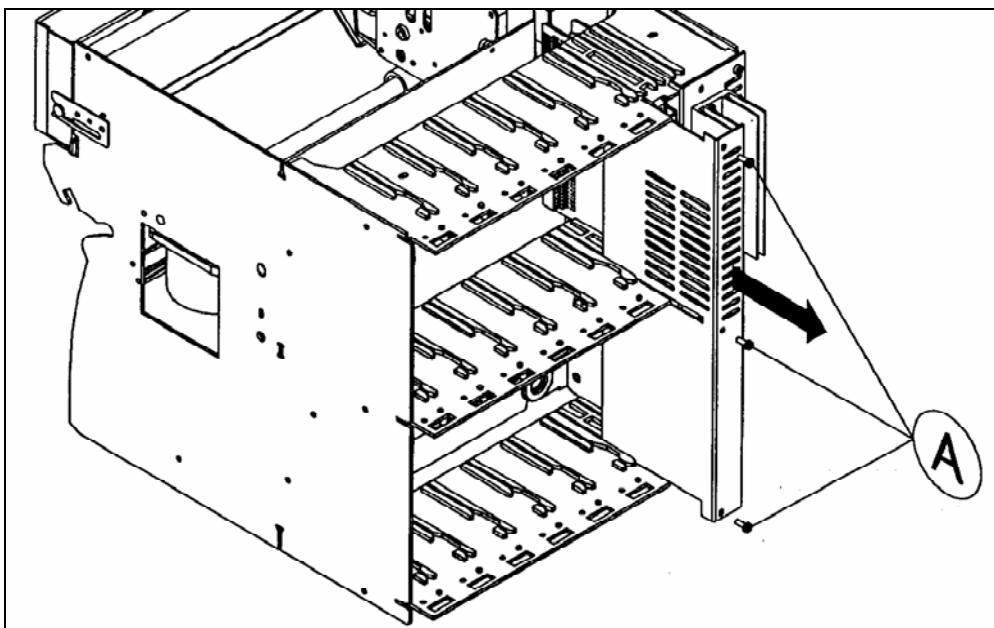

Figure 2-7
15. Remove the cover which protects the CPU board. Unscrew the 3 fixing screws. (See Figure 2-7).